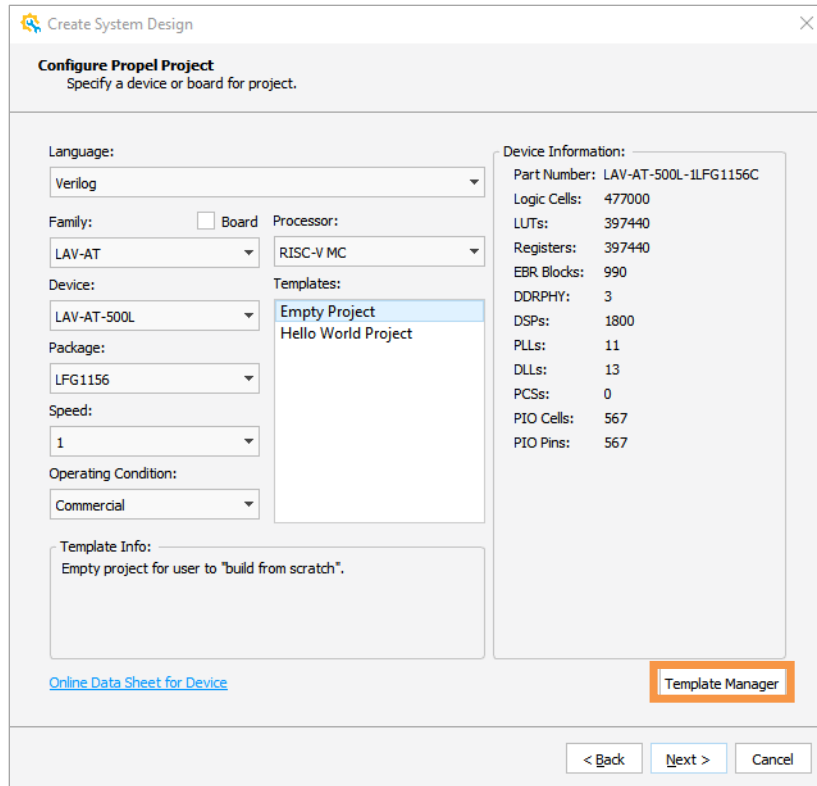

Figure 2.209. Template Manager Entry
- You can import/delete/export a selected template in **Template Manager** when creating a new system design (Figure 2.209 and Figure 2.210).